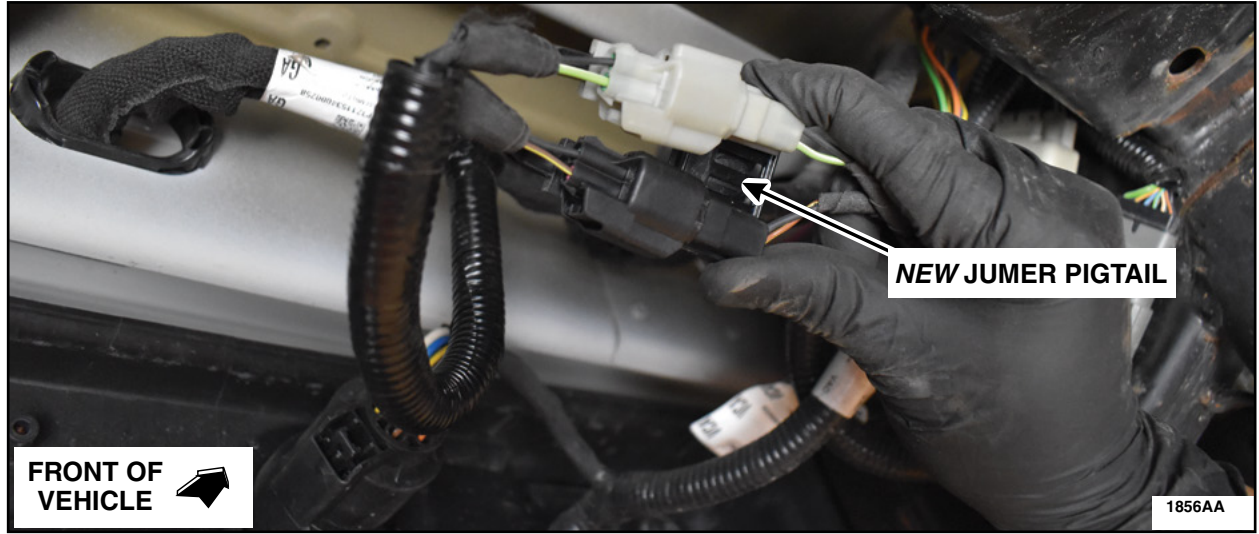

FIGURE 29
34. Connect the *new* jumper pigtail. See Figure 29.